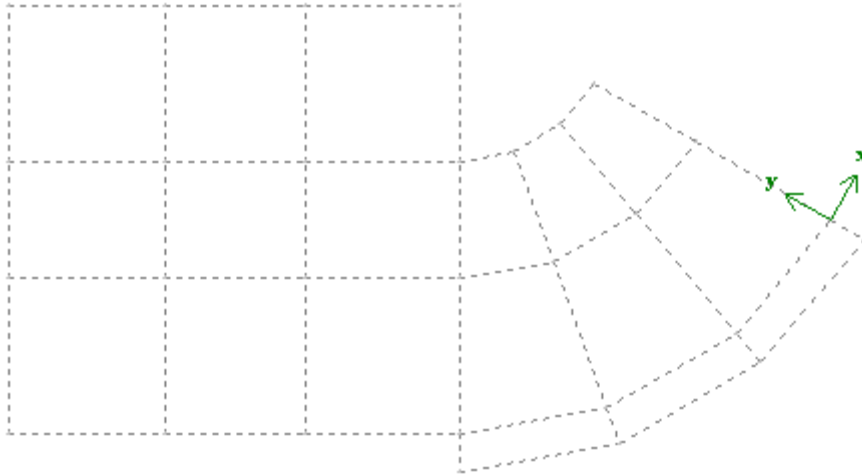

Figure 1.3.5 Rotate coordinate system
- ⇒ When this mode is active, click any node on the grid so that the coordinate system will be located as presented in Figure 1.3.5.